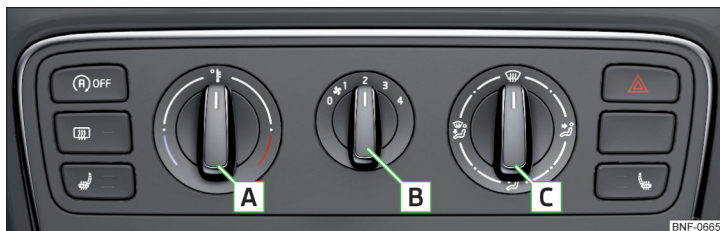
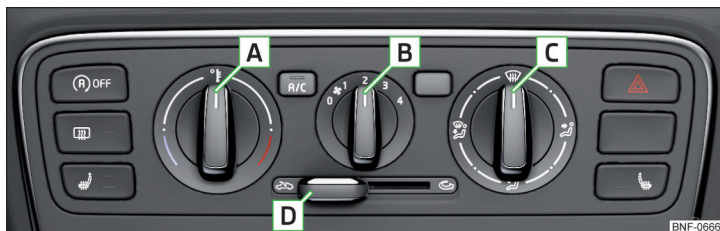

Fig. 81 Heating Controls
Fig. 82 Controls of the air conditioning
Individual functions can be set or switched on by turning the control dial and pressing the appropriate button » Fig. 81 and » Fig. 82.
- ▶ To turn on, move the slide control **D** to position » Fig. 82 on page 65.